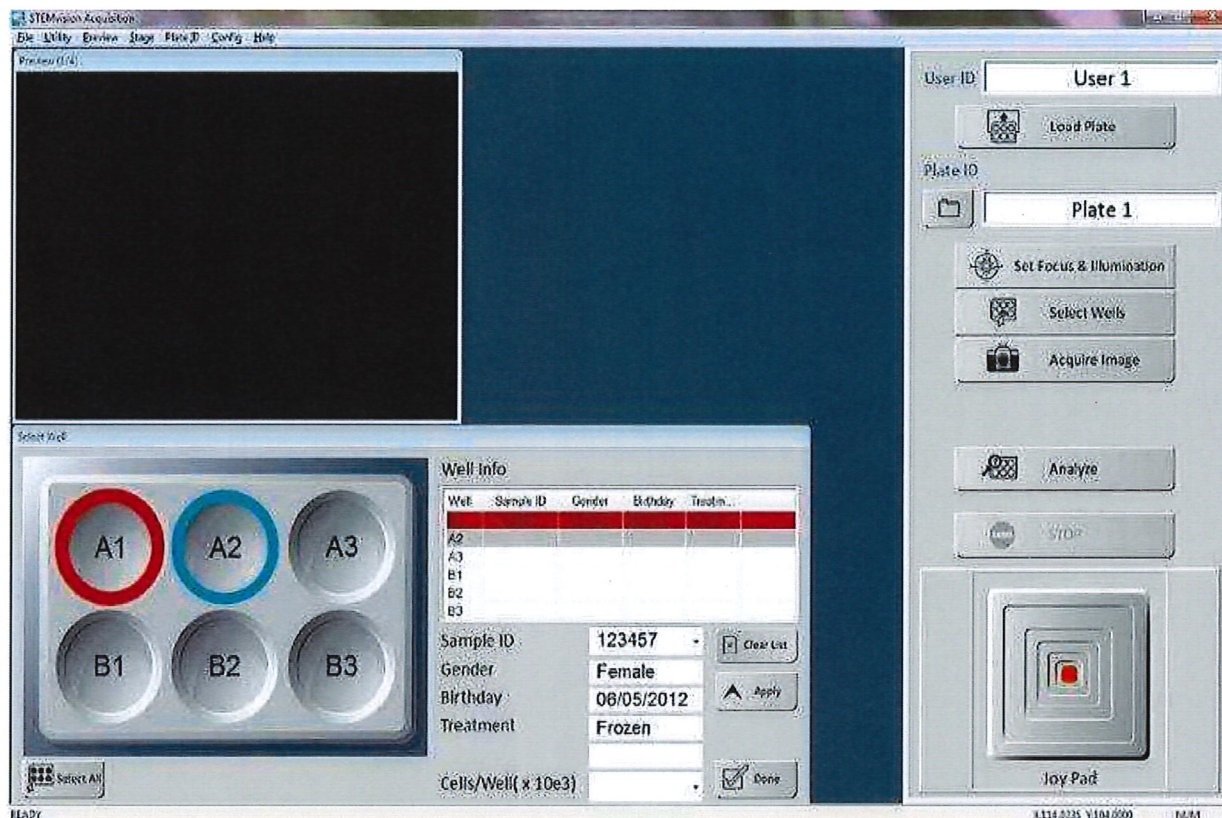

Figure 6
- 8.6.3.1 Click the “Select Wells” button in the Control Panel. A dialog box will appear on the screen showing a graphic of a 6-well plate and a “Well Info” table where the associated sample information is displayed. See **Figure 6**.
- 8.6.3.2 Select all applicable replicate wells by clicking on the 6-well plate graphic. As wells are selected, the matching lines on the “Well Info” table are highlighted. See **Figure 6**.
- 8.6.3.3 Select a previously defined Sample ID for the selected well(s) by using the drop-down menu. See **Figure 6**.
- 8.6.3.4 Click the “Apply” button when all the desired information has been entered. The highlighted wells on the “Well Info” table and 6-well plate graphic will be assigned a new color. See **Figure 6**.
- 8.6.3.6 Click the “Done” button when finished. See **Figure 6**.